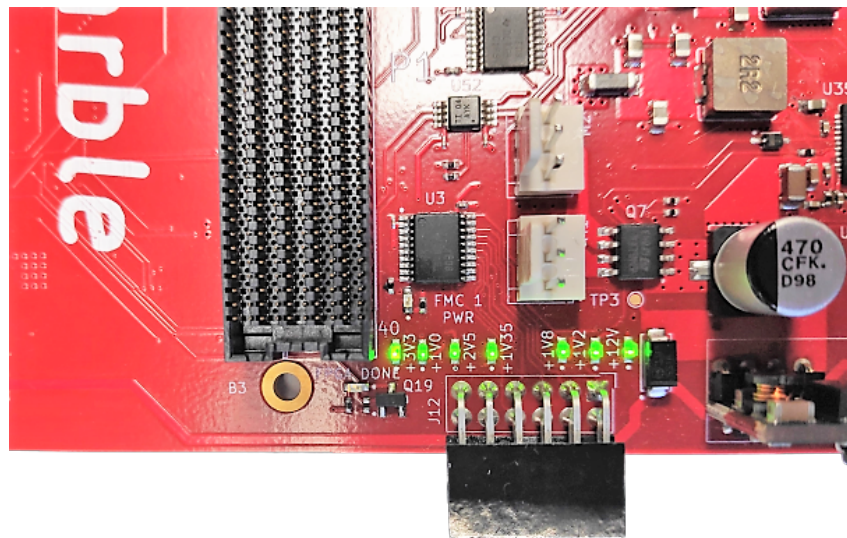

Figure 5: Power LED indicators after a successful power cycle.
6. All power LED indicators should be On (Figure 5).